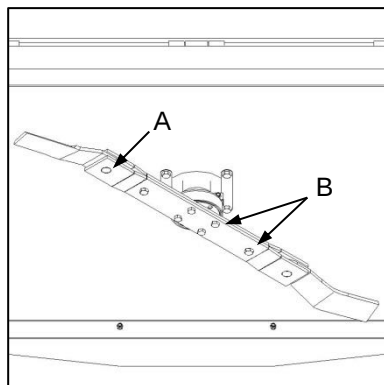
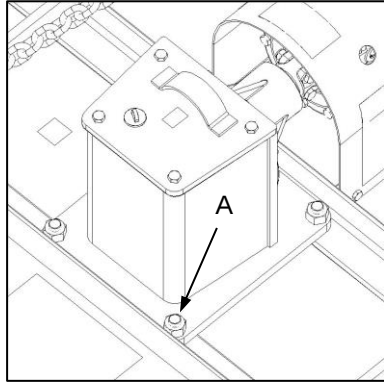
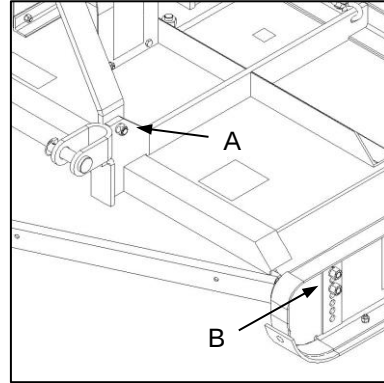

Fig. 1
Fig. 3
Fig. 4
- ✓ Check all fasteners for tightness. This includes special attention to safety-critical fasteners such as blade bolts and nuts (Fig. 1-A / 2-A), cutting gear mounting bolts (Fig. 1-B / 2-B), gearbox mounting bolts (Fig. 3-A), topmast mounting and pivot bolts (Fig. 4-A) and side panel retaining bolts (Fig. 4-B).
- ✓ Verseker dat alle hegstukke vas is. Dit sluit in spesiale aandag aan veiligheidskritieke hegstukke soos lemboute en -moere (Fig. 1-A / 2-A), snymeganisme monterboute (Fig. 1-B / 2-B), ratkas monterboute (Fig. 3-A), topmasmonter- en -spilboute (Fig. 4-A) en sypaneel monterboute (Fig. 4-B).